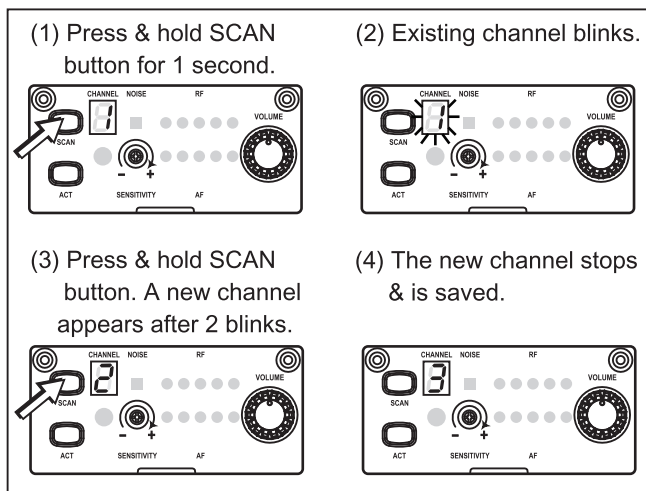

Fig. 3
- (B) Scan Manually for a Receiver Channel: Press & hold SCAN button **6**, channel number in LED screen starts blinking. Press & hold SCAN button will force the channel number to go forward to the next channel in order after two consecutive blinks. When the desired channel number is located, release the button to stop and the new channel appears on the display. Fig. 3